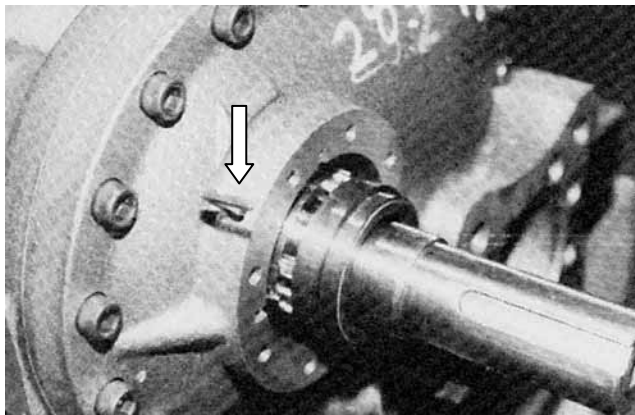

Fig. 3-121 Installing the Mechanical Seal Assembly (160 Models)
- f) Install the shaft seal collar by tightening the two hexagon socket head set screws while aligning them with the countersinks in the shaft. Failure to align the screws with the countersinks will result in leakage (see Fig. 3-121).